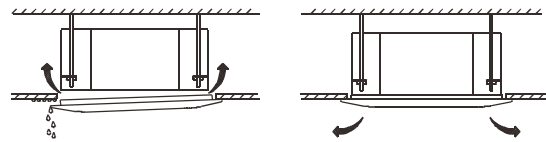

Fig. 27 – Eliminate Space
3. After installing the decoration panel, ensure there is no space between the unit body and the decoration panel. Otherwise air may leak through the gap and cause dewdrops (see Fig. 27).